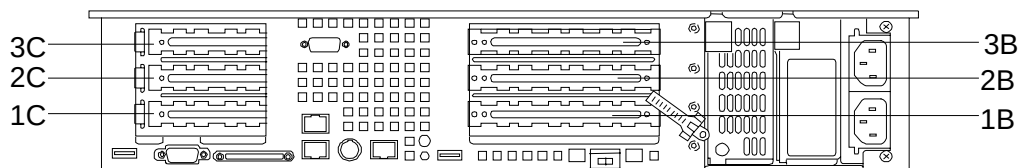

Figure 4-23. Riser Card Slot Assignments
- The system searches for the PCI board in the following order (See Figure 4-23):